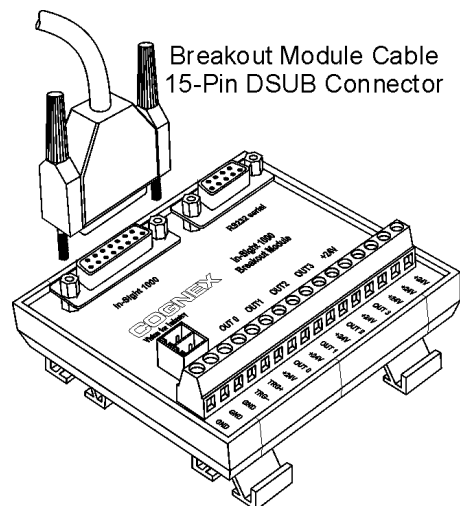

Figure 8. Connecting Breakout Module Cable to 15-Pin DSUB Connector
- b. Plug the Breakout Module cable's 15-pin DSUB connector (male) into the In-Sight 15-pin DSUB connector (female) on the Breakout Module (Figure 8).